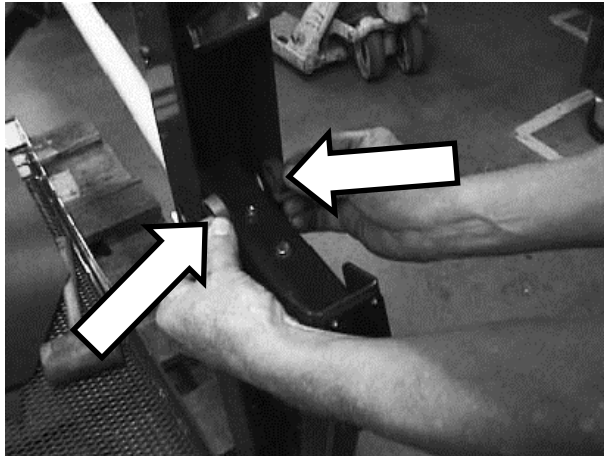

Figure 9. Remove Spacers
9. Refer to **Figure 9**. Remove and retain two (2) spacers.